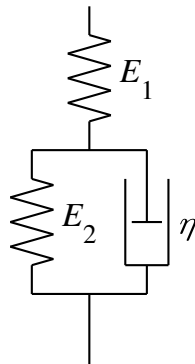

Fig. 8
- (d) Figure 8 illustrates a standard linear material model, with parameters E_1 , E_2 and η .